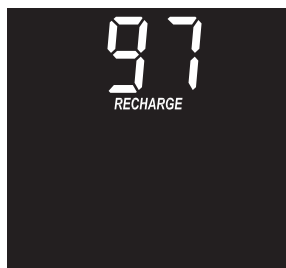

FIG. 28
2. Once in this display, press the SET button twice and the display in Figure 28 is shown.